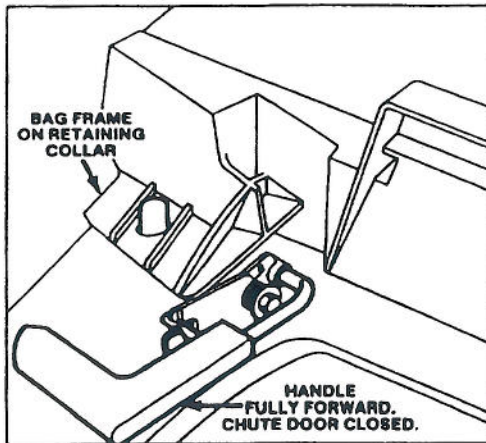

Figure 5
1. Clean around fuel tank cap and remove cap from tank (Fig. 5). Using unleaded gasoline, fill fuel tank to within 1/2 inch (13 mm) from top of tank.
MULCH — In summer, when grass grows slower and is drier, mulch by closing chute door (Fig. 5). For convenience and protection, keep grass bag on mower.
5. **EMPTYING BAG** — Release control bar and wait for blade to stop. Move chute door handle forward to engage the locking pin with catch (Fig. 5). Grasp handle at front and rear of bag and lift bag off mower. For protection, always keep hands and feet away from mower housing because engine is running. Gradually tip bag forward to empty clippings.